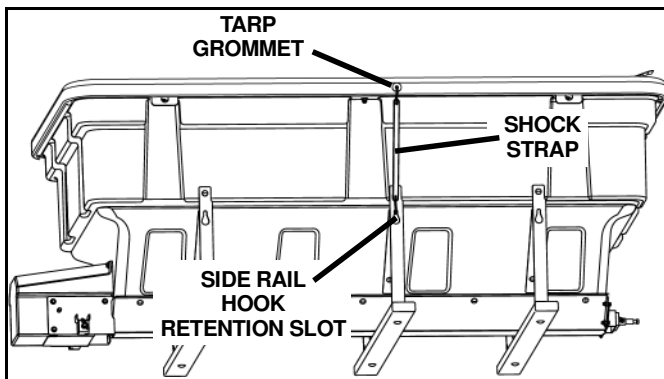

Figure 7
8. Install a rubber shock strap on both sides of the tarp, connected to the center tarp grommet and the frame side rail hook retention slots. (See Figure 7.)